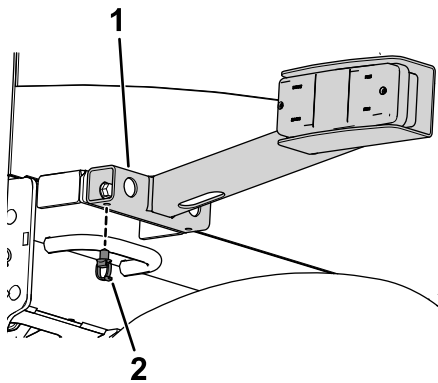

**Figure 16**
5. Route the wire harness to the left side of the machine as shown in Figure 16.
6. Connect the engine ground leg of the wire harness to the ground block (Figure 16).
7. Connect the wire harness to the right and left tail lights (Figure 16).
9. Use the long adapter harness to connect the wire harness to the registration plate lights. (Figure 16 and Figure 18).
10. Continue to route the wire harness along the right frame rail (Figure 16).
11. Connect the ring terminal to the starter (Figure 16).
12. Connect the wire harness to the beacon (Figure 16).
13. Connect the wire harness to the neutral switch (Figure 16).